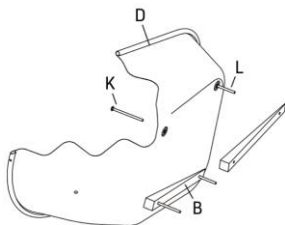
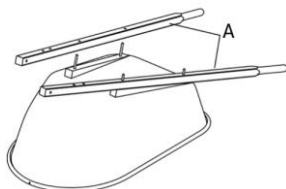

Fig. 1
Fig. 2
1. Push the 8*125 mm bolts (K) and 8 x 85 mm bolts (L) through the retainer clip and through the riser (B) (Fig. 1).
3. Turn the tray (D) over.
4. Place the handles (A) over the bolts and lower them onto the risers (Fig. 2).